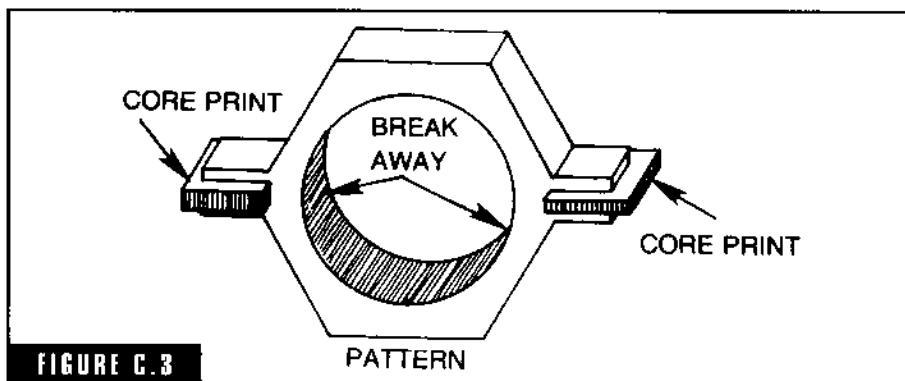

FIGURE C.3
**card pattern** A number of small patterns fastened together by gates or to themselves (Fig. C-3). Bearing caps and clutch dog patterns are